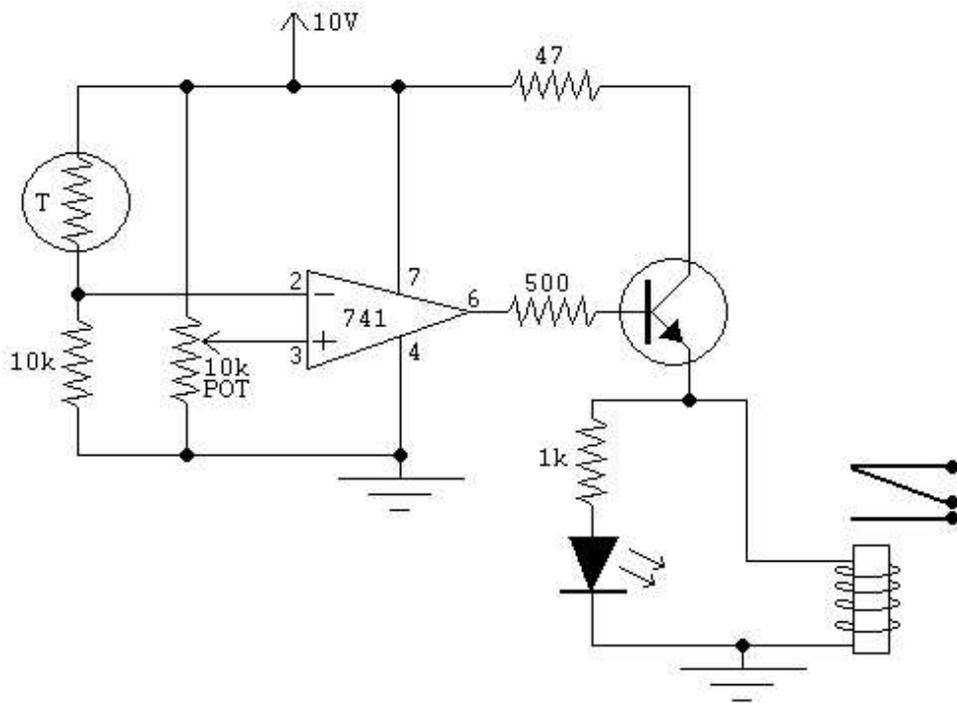

Figure 2: Thermistor sensing circuit with 4 and output driver stage added
We wish to use the thermistor to control a "real" heater, not just an LED. A suitable heater requires 1 - 10 Amps, while the maximum output power the op-amp can directly supply is less than 250 mA. To control such a high-current element using the puny op-amp output, we need two additional components. The "relay" is shown at the extreme lower right of Figure 2. A relay is an electrically operated switch. A spring-loaded contact is mechanically "pulled in" (opened or closed) by the magnetic force of a coil. The
The circuit in Figure 2 also has another complication. A “bipolar transistor” has been added to increase the current available to drive the relay. The bare op-amp output would be marginal for this unless a special low current relay were used. The transistor is denoted by:
Note also that the input connections to the op-amp have been reversed in Figure 2. This allows the “normally open” contacts of the relay to be used to run the relay.
1. Build the circuit of Figure 2, using a 2N222 transistor. The data-sheet shows the pin-out. Use the relay boxes provided but do not connect any 120 VAC for now.
To eliminate the chattering behavior we use an electronic fix called a Schmitt Trigger. Basically what this does is *change the setpoint* a bit depending on whether the output state is on or off. Say the temperature is low and the heater is on. After awhile the sample warms up, the setpoint is exceeded, and the heater turns off. With the previous circuit (Figure 2, as soon as the heater goes off and the sample barely cools off, we will again be below the set point temperature and the heater will be turned on again. Hence the chattering. What we would like is to slightly *lower* the setpoint